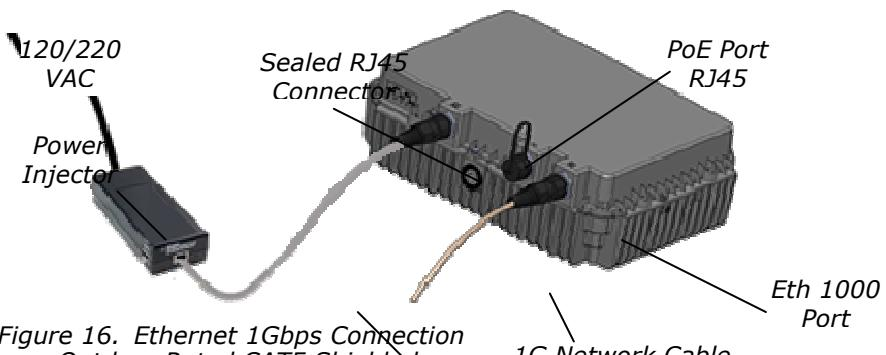

Figure 16. Ethernet 1Gbps Connection
4. For Ethernet 10/100 connect the Ethernet cable from the Ethernet network to the Ethernet port on the power injector. For 1G, use the Eth 1000 port as shown in Figure 16.
When using 1Gbps Network connection, use the Eth 1000 port as shown in Figure 16.